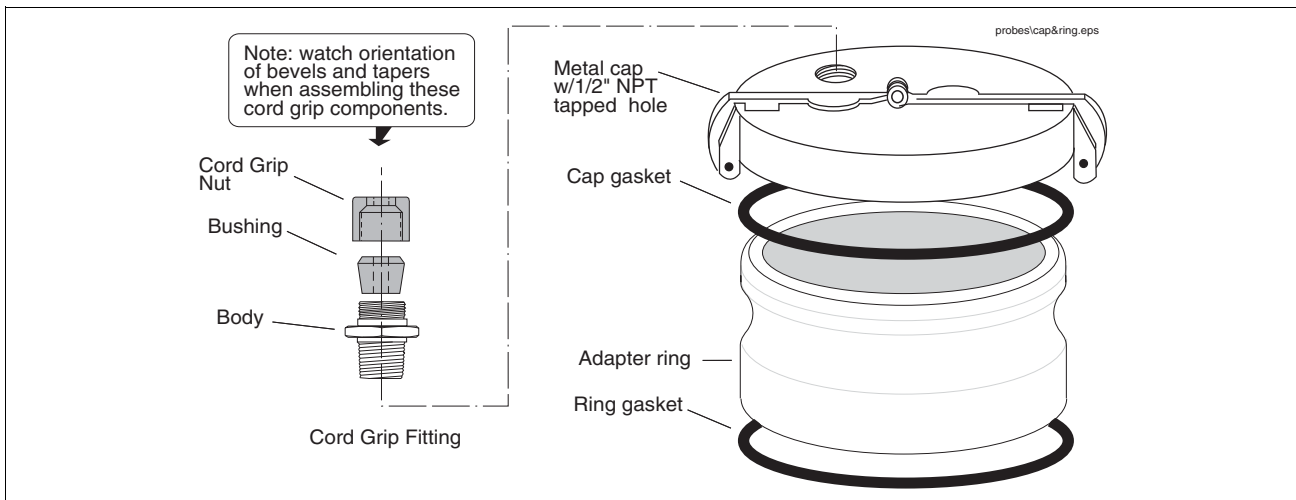

Figure 18. Metal Cap and Ring Kit
This riser cap kit contains an adapter ring which screws onto the 4"NPT riser and a quick-release metal cap which clamps onto the ring (Table 8). The cap comes drilled and tapped with a cord grip (Figure 18).
2. If you are installing the metal cap and adapter ring (see Figure 18 on page 25), screw the ring onto the 4" riser until the gasket contacts the pipe, then use a pipe wrench to tighten it an additional 3/4 turn. Push the cable through the metal cap and cord grip, then clamp the cap onto the ring.
2. If you are installing the metal cap and ring (see Figure 18 on page 25), screw the ring onto the 4" riser until the gasket contacts the pipe, then use a pipe wrench to tighten it an additional 3/4 turn. Using UL-classified pipe sealant (suitable for the fuels involved), screw the cord grip fitting into the tapped hole and tighten. Place the cord grip bushing in the fitting. Discard the cord grip nut and loosely screw the Adaptor Nut from the AST kit onto the cord grip fitting (see Figure 12 on page 19). Push the cable through the metal cap, bushing, and Adaptor nut, then clamp the cap onto the ring. Make sure there is a minimal amount of slack between the probe and cap, then tighten the Adaptor Nut until the cable is held firmly.